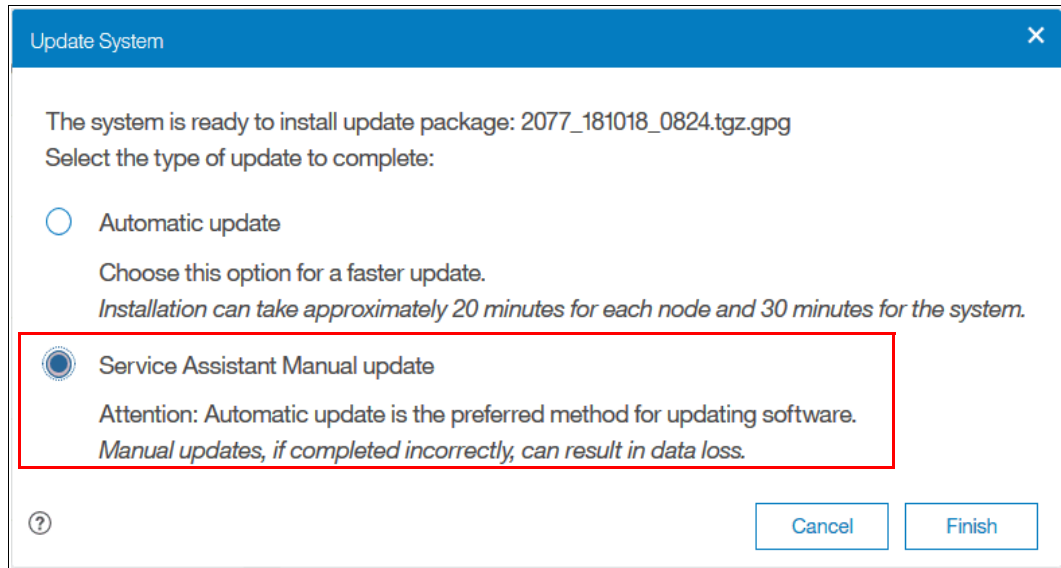

Figure 12-48 Manual update selection
3. Select **Service Assistant Manual update** and click **Finish**, as shown in Figure 12-48.